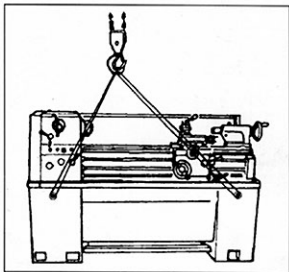

Fig.1
4. Sling lathe after placing steel rods or pipes (of sufficient strength) into holes of lathe stand as diagrammed in Fig. 1. Do not lift by spindle. With adequate lifting equipment, slowly raise the lathe off the shipping crate bottom. Make sure lathe is balanced before moving.